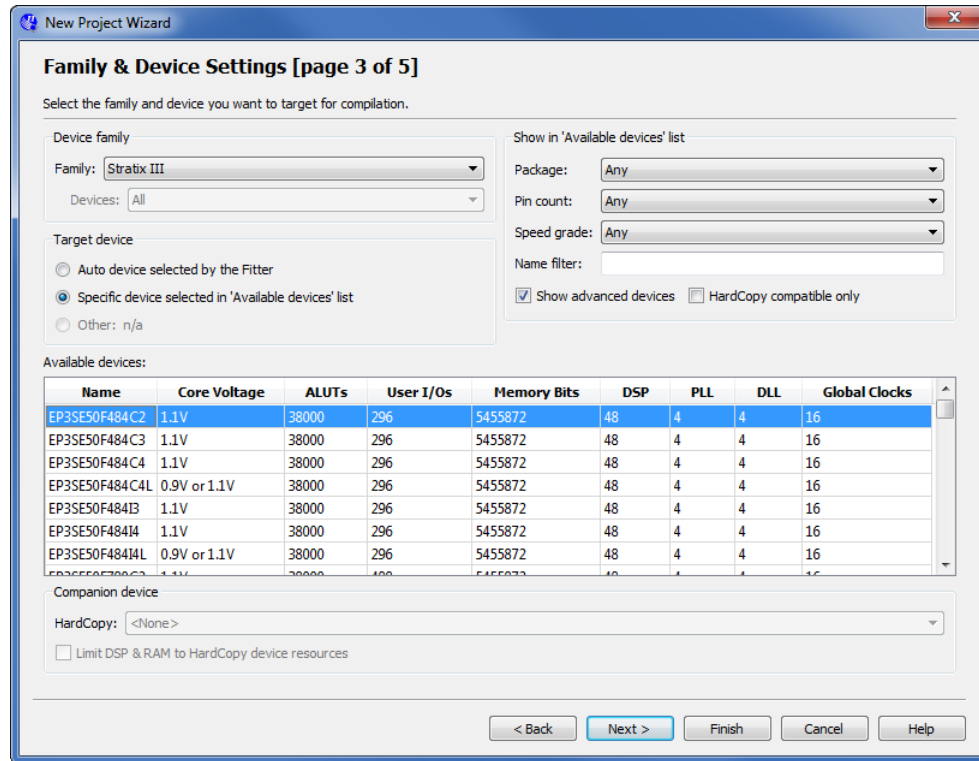

Figure 7: Choose the device family and a specific device.
3. This window makes it easy to specify which existing files (if any) should be included in the project. Assuming that we do not have any existing files, click **Next**, which leads to the window in Figure 7.